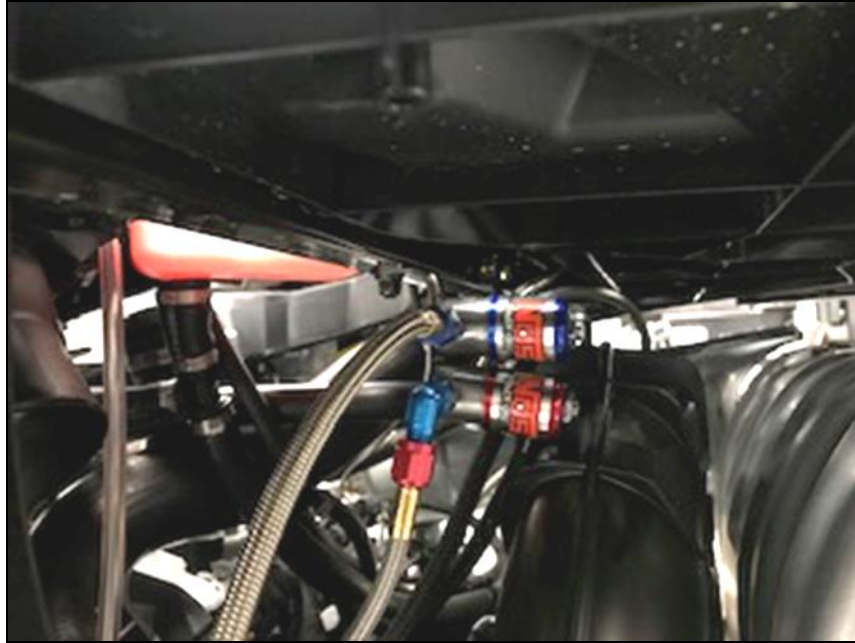

Figure 11 – Solenoid Mounting
5. Install the solenoid bracket with the solenoids under the bed of the UTV with the OUT side of the solenoids facing the direction of the clutch cover. You should be able to use the existing bolt and lock nut located on the bed support cross bar as seen in **Figure 11**.